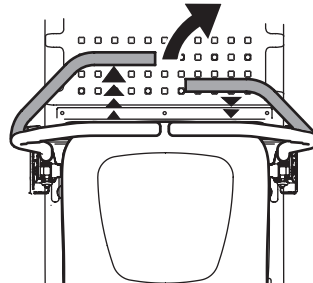

Figure 23
2. To turn to the right, move the right drive control lever rearward of the left lever (Figure 23).